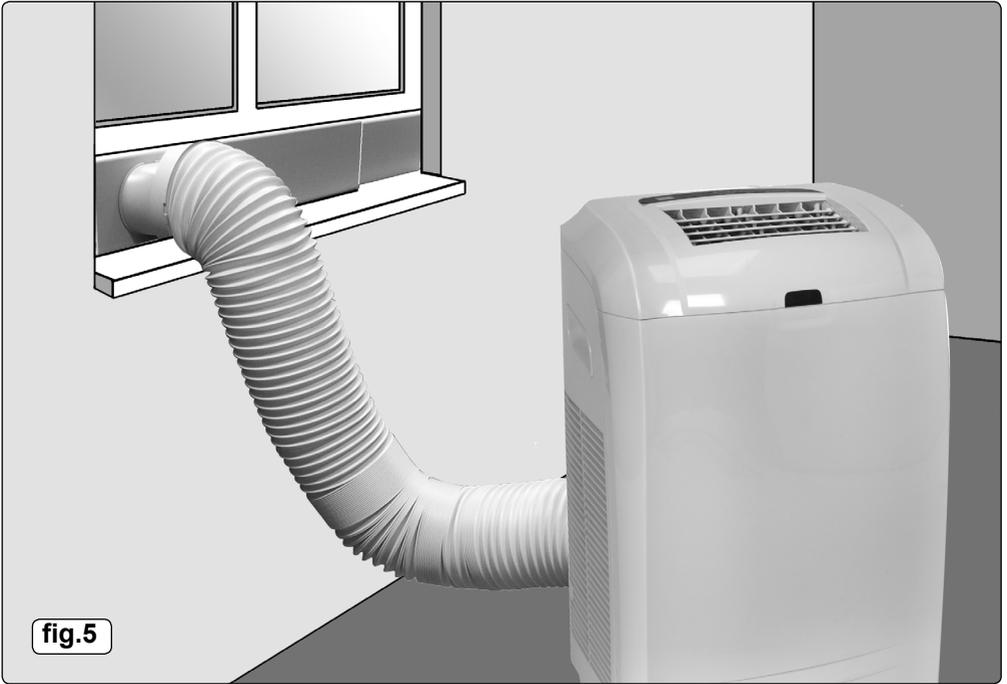

fig.5
4.2. **End Plate placement.** Identify a suitable window which can be opened vertically or horizontally. Match the window opening to the height of the end plate. Slide the inner part of the end plate out until it matches the width of the window and lock the two parts together by tightening the screws on the inside edge of the inner slide. Permanently screw the end plate to the window frame or make a semi permanent installation using re-inforced, high tack, adhesive tape. Bring the unit close to the window and push the end plate adaptor at the end of the duct into the matching hole in the end plate. Fig.5 shows the unit installed by a horizontally opening window. Keep the duct as short as possible but do not allow the duct to be kinked or distorted or blocked as this will overheat the unit. If the unit becomes overheated it will automatically shut down.